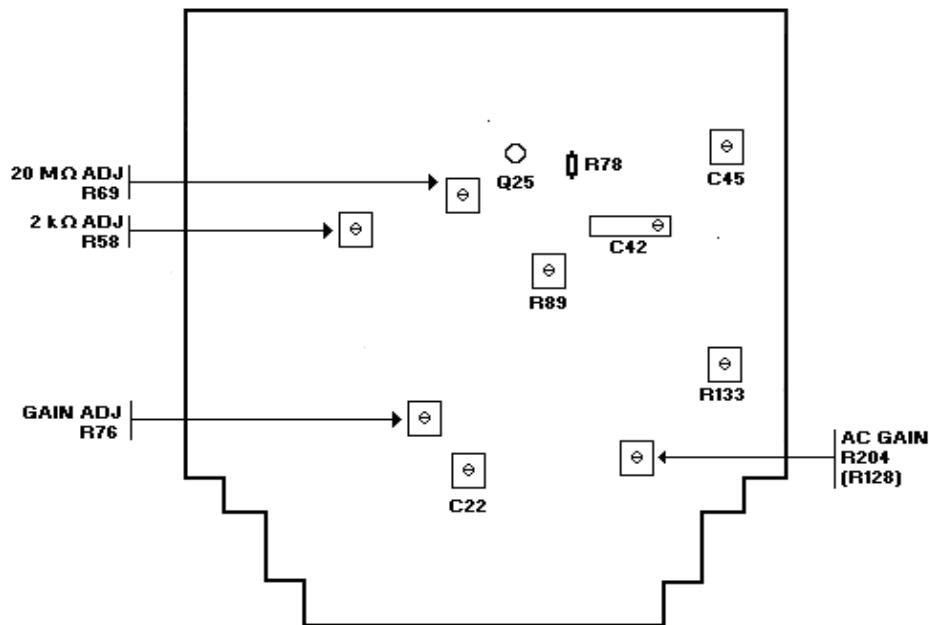

Figure 1. Adjustment locations bottom view (models 3465A and 3465B).
b. Adjustments. Adjust GAIN ADJ R76 (fig. 1) for a TI indication of 10.000 (± 3 digits) (R).
- (1) Press TI **2 k** pushbutton and disconnect calibrator from TI.
- (2) Short TI **VΩ** and **COM**.
- (3) Connect multimeter to junction of R78 and Q25 (fig. 1). Adjust 20 $M\Omega$ ADJ R69 (fig. 1) for a multimeter indication of < 500 μV (R).
- (4) Remove short from TI **VΩ** and **COM** and disconnect multimeter.
- (5) Connect calibrator **OUTPUT HI** and **LO** to TI **VΩ** and **COM**.
- (6) Set calibrator for a 1 $k\Omega$ output and **2 wire Comp** on. Adjust 2 $k\Omega$ ADJ R58 (fig. 1) for a TI indication equal to calibrator output display rounded to TI digits of resolution (± 2 digits) (R).
- (7) Press TI **20 M** pushbutton.
- (8) Set calibrator **2 wire Comp** off and output to 10 $M\Omega$. Adjust 20 $M\Omega$ ADJ R69 (fig. 1) for a TI indication equal to calibrator output display rounded to TI digits of resolution (± 1 digit) (R).
- (9) Press TI **2 k** pushbutton.
- (10) Repeat (6) through (9) above for best compromise.
- (1) Set calibrator to **STANDBY**.
- (2) Press **TI 2** pushbutton.
- (3) Set calibrator for a 1 V, 200 Hz output. Adjust AC GAIN R204 (R128) (fig. 1) for a 1.0000 TI indication (R).
- (4) Set calibrator for a 100 mV, 200 Hz output.
- (5) Press **TI 200 m** pushbutton. Adjust R133 (fig. 1) for a 100.00 TI indication (R).
- (6) Press **TI 2** pushbutton.
- (7) Set calibrator for a 100 mV, 20 kHz output. Adjust C45 (fig. 1) for a .1000 (± 1 digit) TI indication (R).
- (8) Press **TI 200 m** pushbutton. Adjust C42 (fig. 1) for a 100.04 (± 1 digit) TI indication (R).
- (9) Press **TI 20** pushbutton.
- (10) Set calibrator for a 10 V, 20 kHz output. Adjust C22 (fig. 1) for a 10.008 (± 1 digit) TI indication (R).
- c. Set calibrator for a 1 V dc output. If TI does not indicate 1.0000, adjust R89 (fig. 1) for a 1.0000 TI indication (R).